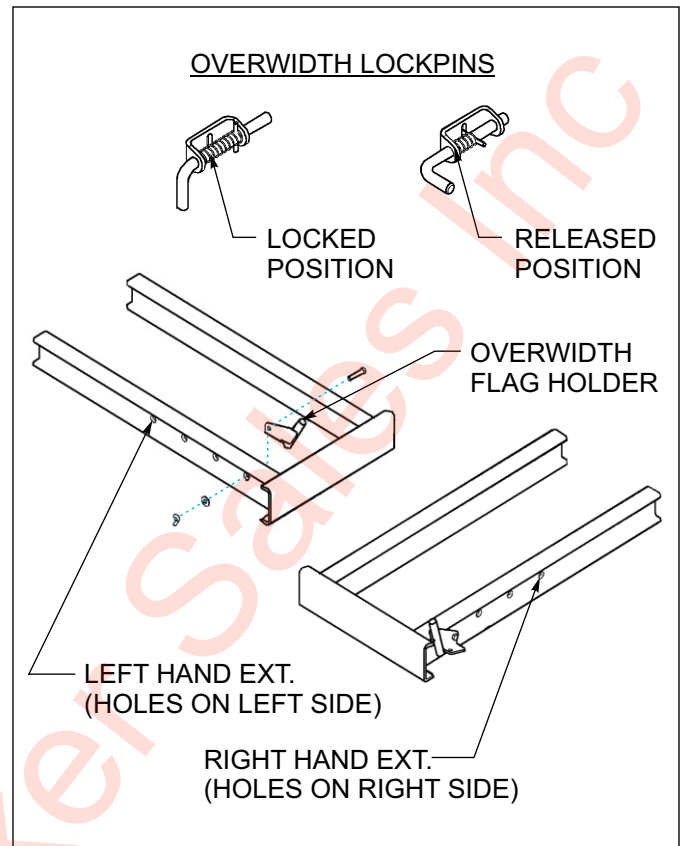

Figure 3-5: Pull Out Extensions
2. Lift up and rotate swing-out outriggers outward (See **Figure 3-5.**)